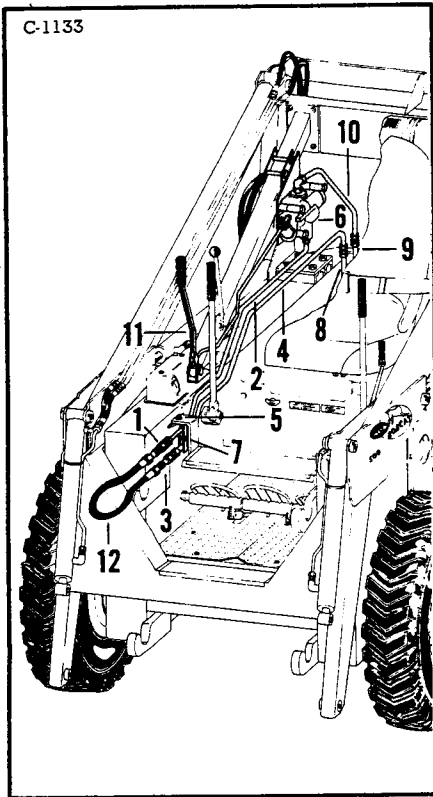

Fig. 167 Mounting Auxiliary Kit
2. With two 1/2" NPT x 1/2" 37° Flare straight adapters connect the male half of the quick coupler (Figure 167, Item 1) to the shorter tube (Item 2) and the female half of the quick coupler (Item 3) to the longer tube (Item 4) and tighten securely.
15. Attach the ends of a hydraulic jumper hose to the quick couplers to complete the circuit (Figure 167, Item 12).